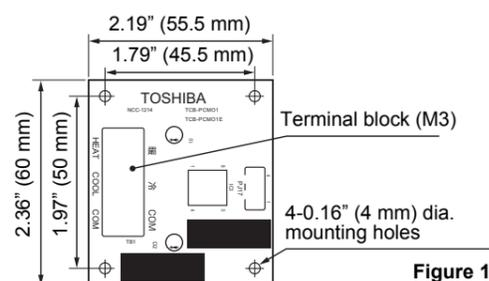

Figure 1
- (1) Before proceed an installation work, please make sure the power supply is OFF.
- (2) Insert four fixing supports (2) into the holes on the "Optional PCB". (See Figure 1)